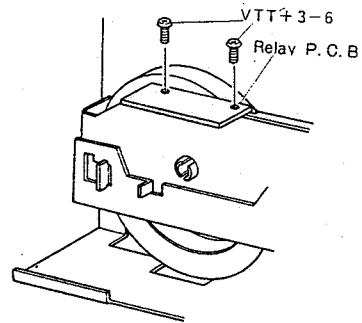

Fig. 16
6) With 2 screws of the repeat circuit board removed, the mechanism moves more freely facilitating work. (See figure 16)